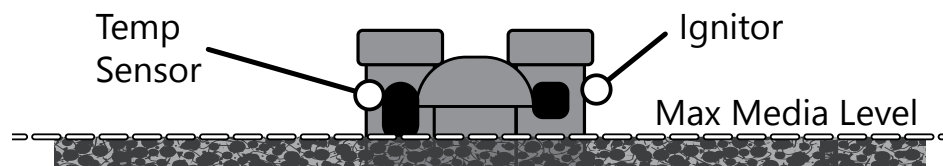

FIGURE 3: GLASS AND ROCK LEVEL
- Media must not cover up the holes on the side of the temp sensor, otherwise the auto ignition will not work properly. (FIG 3)